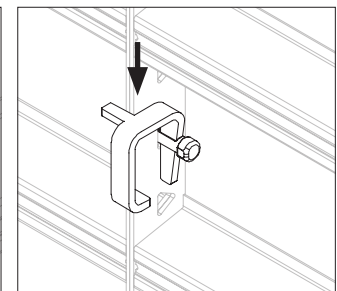

Fig. A4.01c
3. Hammer the wedge – 2 to 3 hammer blows using normal force. (Fig. A4.01c)